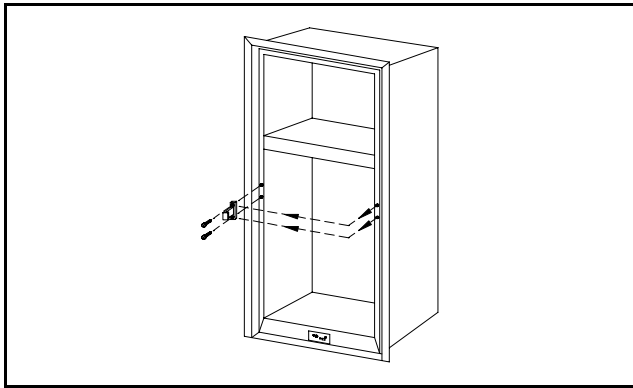

Figure 13
15. Using the #2 phillips screwdriver, remove the two screws securing the travel latch to the refrigerator. Save the screws for later reassembling (see Figure 13).
17. Reposition the travel latch in the two holes exposed by the removal of the hole plugs. Attach travel latch using the two screws previously removed. Do not tighten screws (see Figure 13).